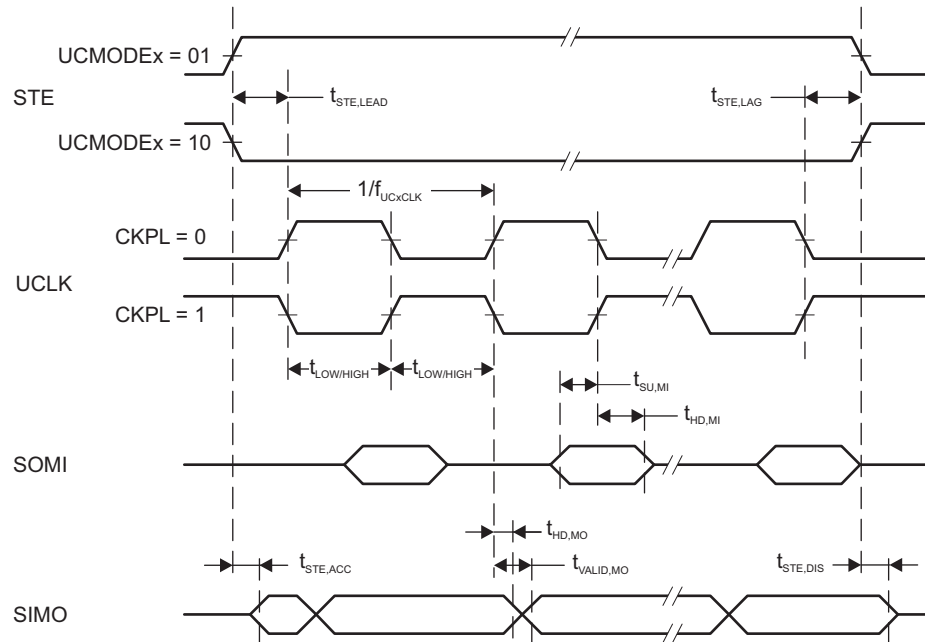
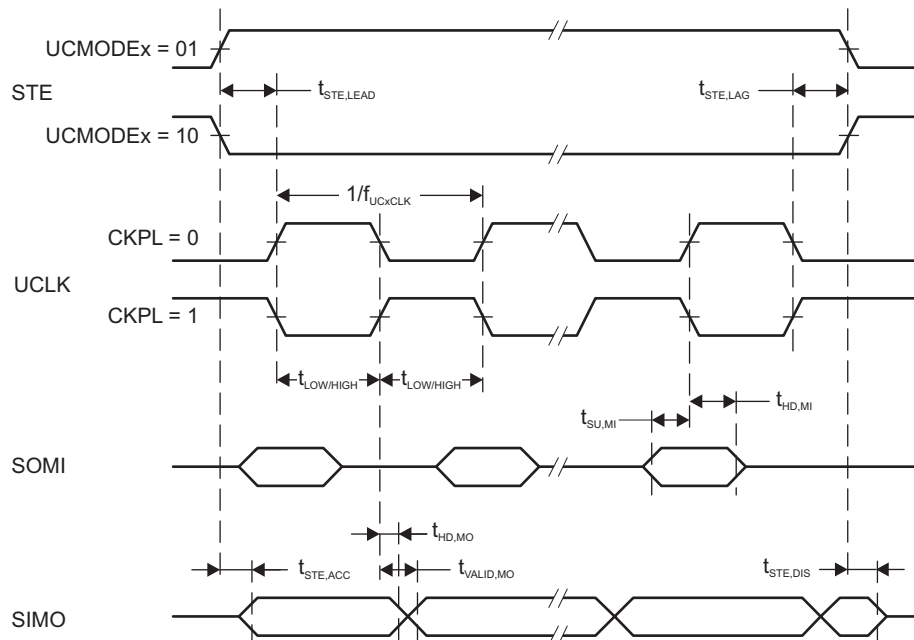

Figure 5-13. SPI Master Mode, CKPH = 0
Figure 5-14. SPI Master Mode, CKPH = 1
- (1) $f_{UCxCLK} = 1/2(t_{LO/Hi} \text{ with } t_{LO/Hi} = \max(t_{VALID,MO}(eUSCI) + t_{SU,SI}(Slave), t_{SU,MI}(eUSCI) + t_{VALID,SO}(Slave)))$. For the slave parameters $t_{SU,SI}(Slave)$ and $t_{VALID,SO}(Slave)$, see the SPI parameters of the attached slave.
- (2) Specifies the time to drive the next valid data to the SIMO output after the output changing UCLK clock edge. See the timing diagrams in Figure 5-13 and Figure 5-14.
- (3) Specifies how long data on the SIMO output is valid after the output changing UCLK clock edge. Negative values indicate that the data on the SIMO output can become invalid before the output changing clock edge observed on UCLK. Refer to the timing diagrams in Figure 5-13 and Figure 5-14.